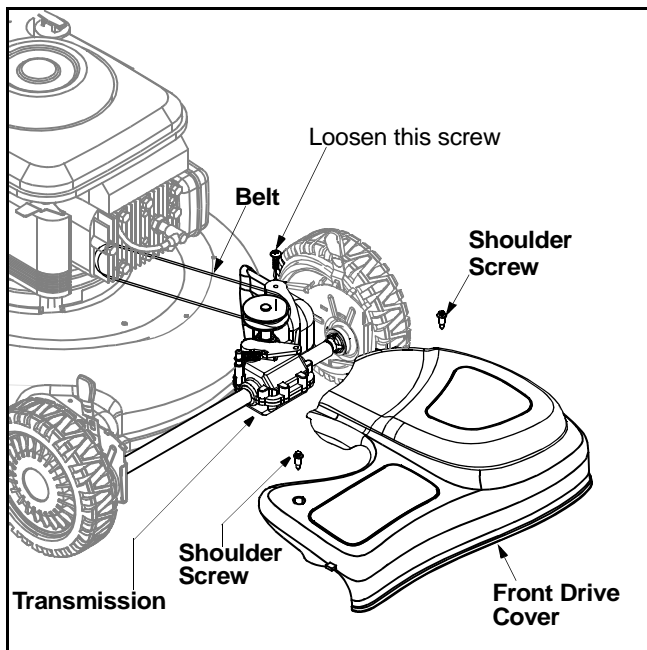

Figure 14
- Remove two shoulder screws securing the front drive cover to the mower deck. See Figure 14 .
- Using a torque wrench, loosen the screw holding the belt tension spring to the transmission. See Figure 14 . Do not remove the screw completely. As you loosen the screw, the tension on the belt will be released.